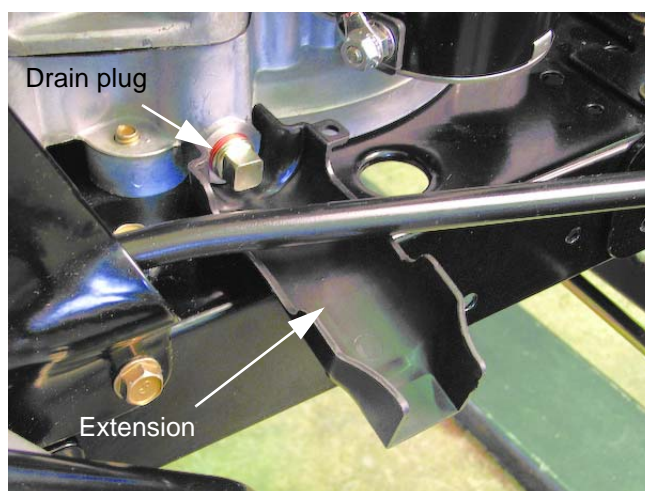

Figure 9.5
1. Most manufacturers provide a drain extension to ease the draining of oil from their engines. See Figure 9.5.